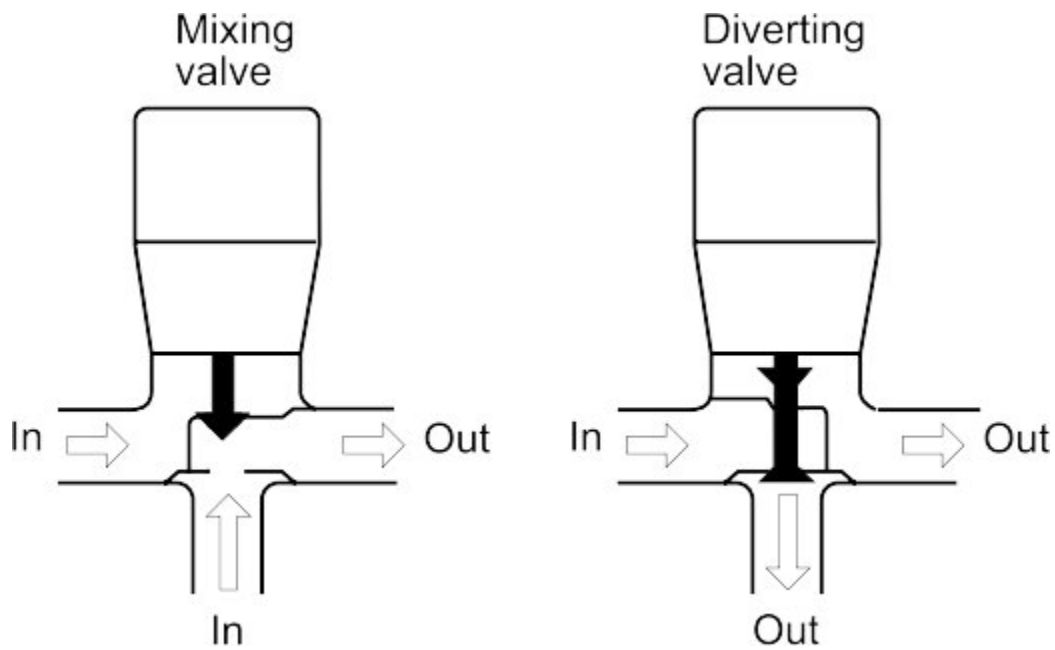

Figure 10 3-way mixing and diverting valves
- Figure 10 3-way mixing and diverting valves by ITA is licensed under a CC BY-NC-SA licence.